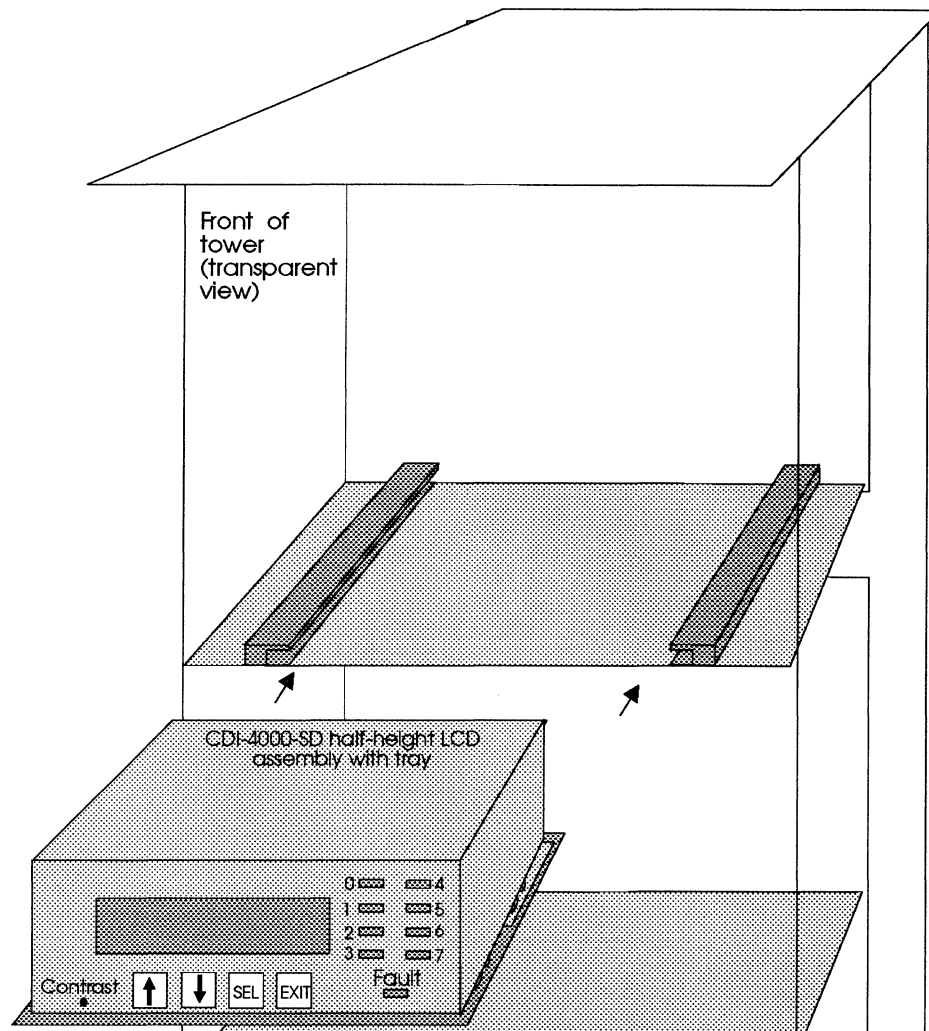

Figure 7-9: Slide the tray into the tower
- 5 Slide the tray into the top front slot of the tower. See Figure 7-9.